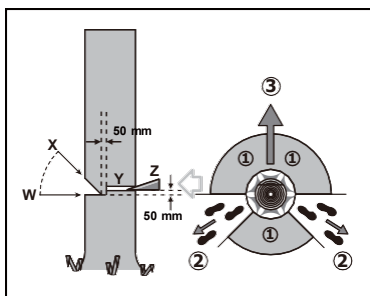

Figure 1
- Plan and clear an escape path before starting any cuts. The escape path should extend backward and diagonally to the rear of the tree's expected fall line, as shown in Figure 1.
Create a notch equal to 1/3 the tree's diameter, ensuring it is perpendicular to the intended direction of the fall (as shown in Figure 1).
- Begin with the lower horizontal notching cut (W). This helps prevent the saw chain or guide bar from becoming pinched while making the second cut (X).
Make the felling back cut (Y) at least 50 mm higher than the horizontal notching cut, as shown in Figure 1. Ensure the back cut is parallel to the horizontal notching cut. Leave enough wood in the hinge to guide the tree's fall, preventing it from twisting or falling in the wrong direction. **Do not cut through the hinge.**